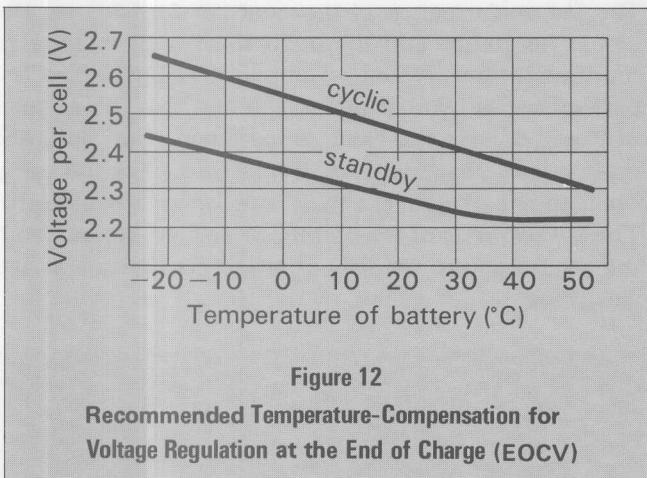

Figure 12
ambients, it is desirable for the charger to be temperature-compensated as shown in Figure 12.
- (1) In these applications, the batteries are subjected to constant charging so long as a voltage difference exists between the battery and charger voltages. The charger voltage, therefore, must be stabilized in a narrow range during trickle charge.
- (2) When using the battery in a wide range of ambients, the charger should be temperature-compensated, as the charge characteristics will be greatly affected by the ambient temperature. (See Figure 12).